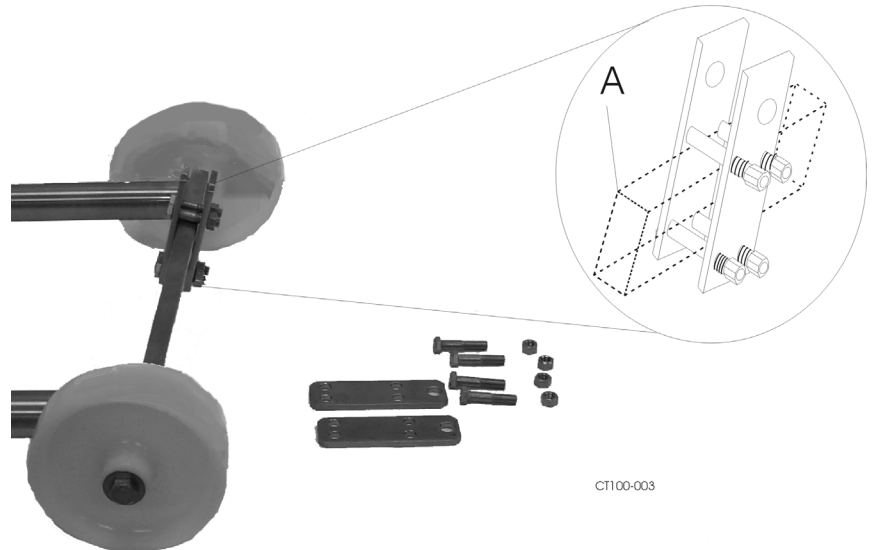

Figure 4 - Bracket Assembly
3. Assemble four brackets (loosely) on the handrail base (Figure 4, item A) using four cap screws, 4 nuts and two brackets for each assembly (see Figure 4).